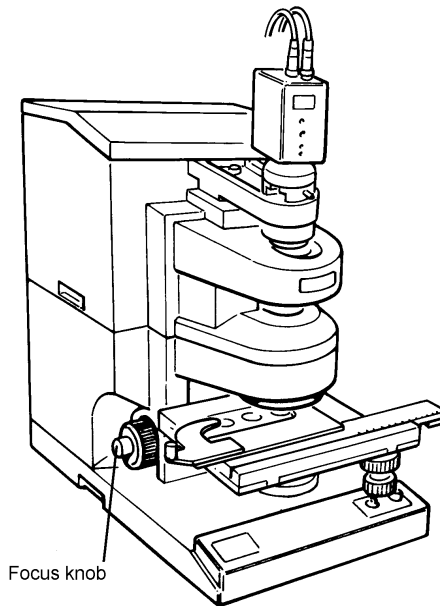

Figure 19 The Focus Knob
7. Use the Focus knob on the left of the microscope (Figure 19) to bring the sample into focus.